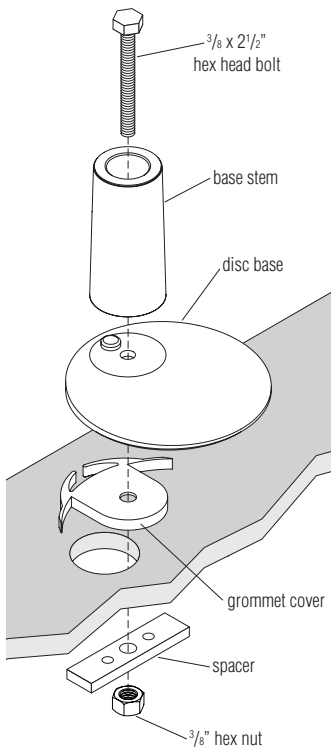

Figure 4
D. Grommet-mounted through a grommet hole less than 2" diameter using $\frac{3}{8}$ " hex nut (Figure 4).